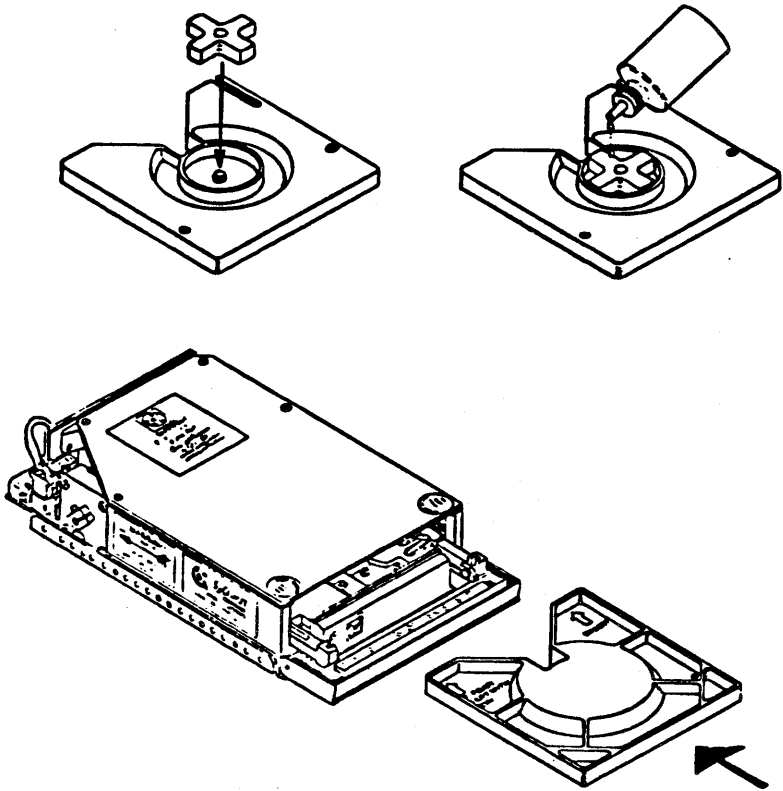

FIGURE 9-1
1. Apply two to three drops of freon to the foam pad which is affixed to the center of the cleaning cartridge. Foam pad should be moist, but not soaked, prior to each cartridge insertion. See Figure 9-1.
2. Insert the cleaning cartridge into the drive. See Figure 9-1.
Replace foam pad when dirty (approximately every 10 insertions). See Figure 9-1.